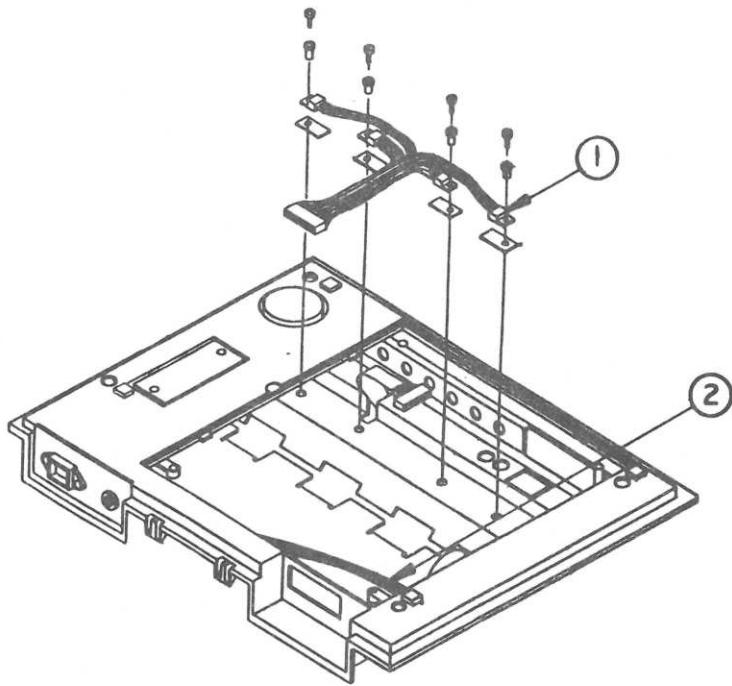

FIGURE 4
- 5.5 Transistor Assemblies (Figure 4)
□ TRANSISTOR ASSEMBLIES (Figure 4)
□ IMAGEWRITER – PRINT HEAD ASSEMBLY (Figure 4)